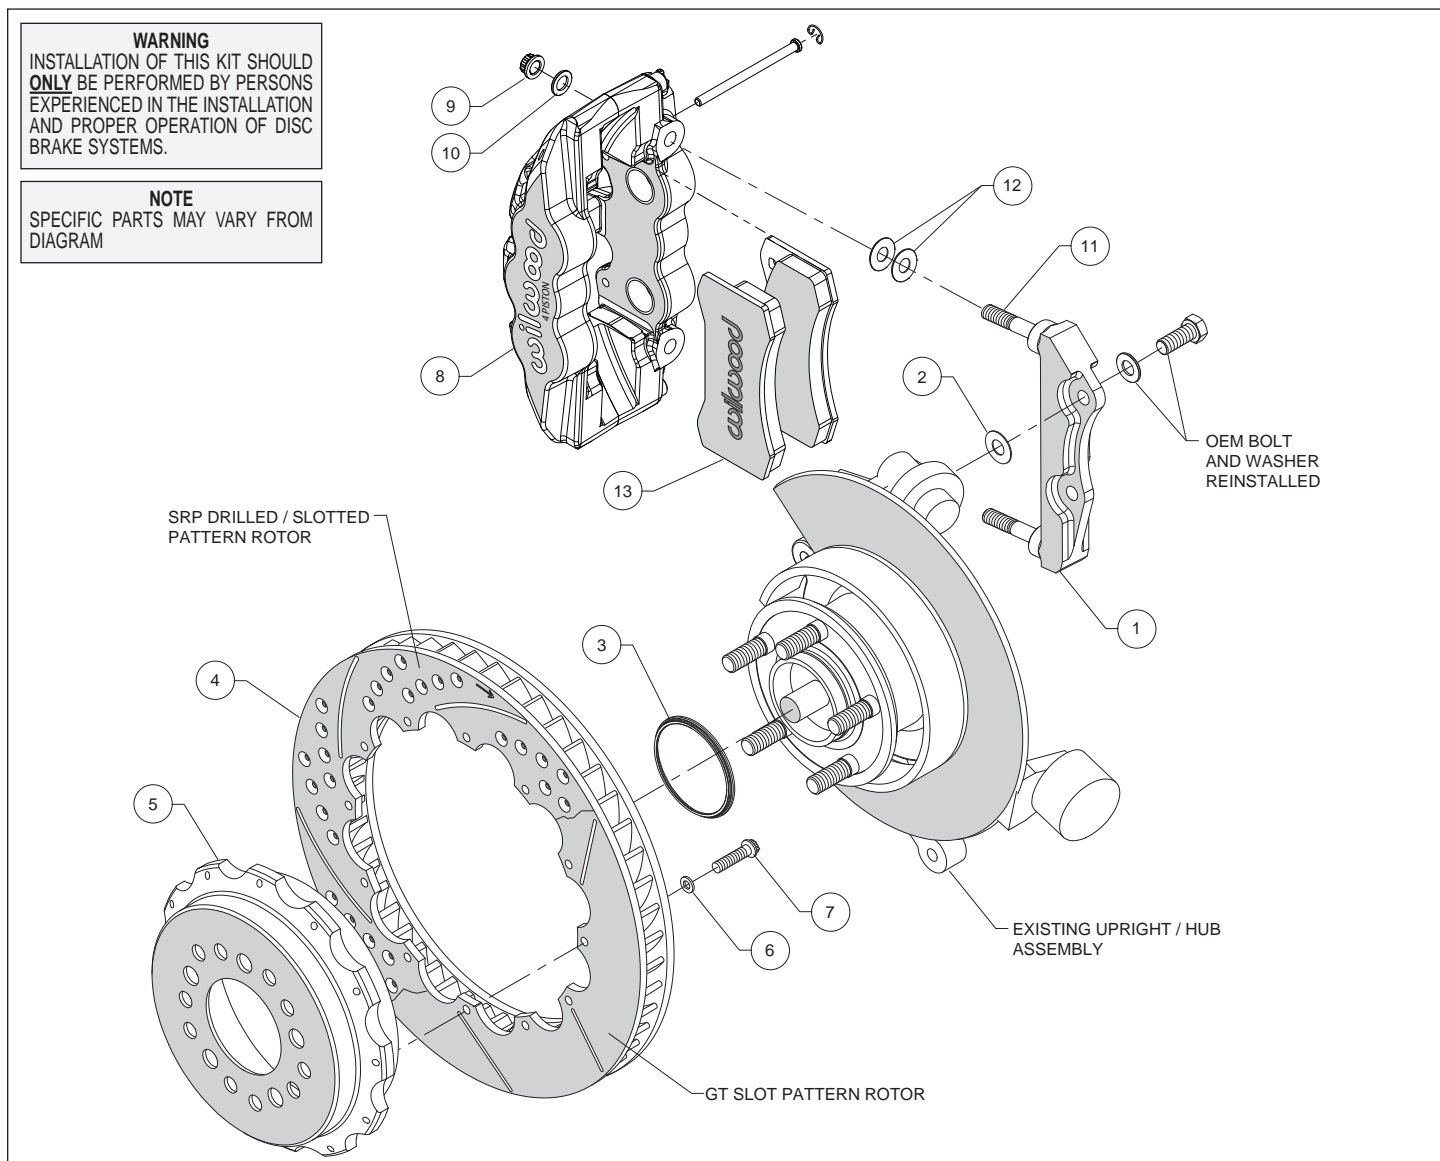
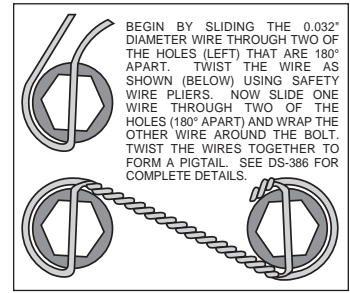

Figure 1. Typical Installation Configuration
Figure 3. Safety Wire Diagram
Assembly Instructions (numbers in parenthesis refer to the parts list and Figure 1 on the preceding pages):
- The caliper mount bracket (1) should initially be installed with clean, dry threads on the mounting bolts. Orient the bracket as shown in Figure 1 and install using the saved OEM caliper mount bolts and washers. Initially place one .033" thick shim (2) on each bolt between the bracket and upright, Figure 1. Temporarily tighten the mounting bolts. **NOTE:** The bracket must fit squarely against the mount bosses on the upright. Inspect for interference from casting irregularities, machining ridges, burrs, etc. Later, after the caliper alignment has been checked, the mount bolts will be secured using red *Loctite*® 271.
- Orient the rotor (4) and the hat (5) as shown in Figure 1 and Photo 1. Attach rotor to hat using bolts (7) and washers (6). Using an alternating sequence, apply red *Loctite*® 271 to the threads and torque bolts to 140 in-lb. For an added measure of security, the bolts may be safety wired using standard 0.032 inch diameter stainless steel safety wire as shown in Figure 3. Please refer to Wilwood's data sheet DS-386 (available at www.wilwood.com/Pdf/DataSheets/ds386.pdf) for complete safety wire installation instructions.
- Slide the rotor registration adapter (3) onto the axle register on the axle hub with the smaller O.D. facing outward, Photo 2. Slide the hat/rotor assembly onto the axle hub. **NOTE:** The hat must fit flush against the axle hub flange or excessive rotor run out may result. Install three lug nuts (finger tight) to keep the hat/rotor assembly in place while continuing with the installation.
- Lubricate the caliper mounting studs (11) with lightweight oil. Initially place two .030" thick shims (12) on each stud between the caliper and the bracket, as shown in Figure 1 and Photo 3. Mount the caliper (8) onto the bracket (1) using lock nuts (9) and washers (10), Figure 1. Temporarily tighten the lock nuts and view the rotor through the top opening of the caliper. The rotor should be centered in the caliper, Photo 4. If not, adjust by adding or subtracting shims (2) between the bracket and the upright. Always use the same amount of shims on each of the two mounting bolts. Once the caliper alignment is correct, remove the bracket mounting bolts one at a time, apply red *Loctite*® 271 to the threads, and torque to 65 ft-lb.
- Remove the two pad retaining pins from the caliper (8) by carefully popping out the pin retaining clips and sliding out the pins. Insert the brake pads (13) into the caliper from the bottom, Figure 1 and Photo 5. With the friction material facing the rotor, secure the brake pads in place with the pad retaining pins and clips, Photo 6. Reinstall the caliper onto the caliper mounting bracket and temporarily tighten the lock nuts. Check that the top of the brake pad is flush with the outside diameter of the rotor, Photo 8. If not, adjust by adding or subtracting shims (12) between the caliper and the bracket. After the caliper pad height is set, torque the caliper lock nuts (12) to 47 ft-lb.